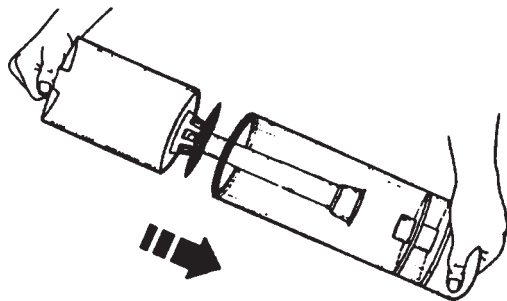

Figure 13a
1. Align the arrow on the Collection Bin Cover with the UNLOCK icon on the Collection Bin. (See Figures 13a and 13b.)